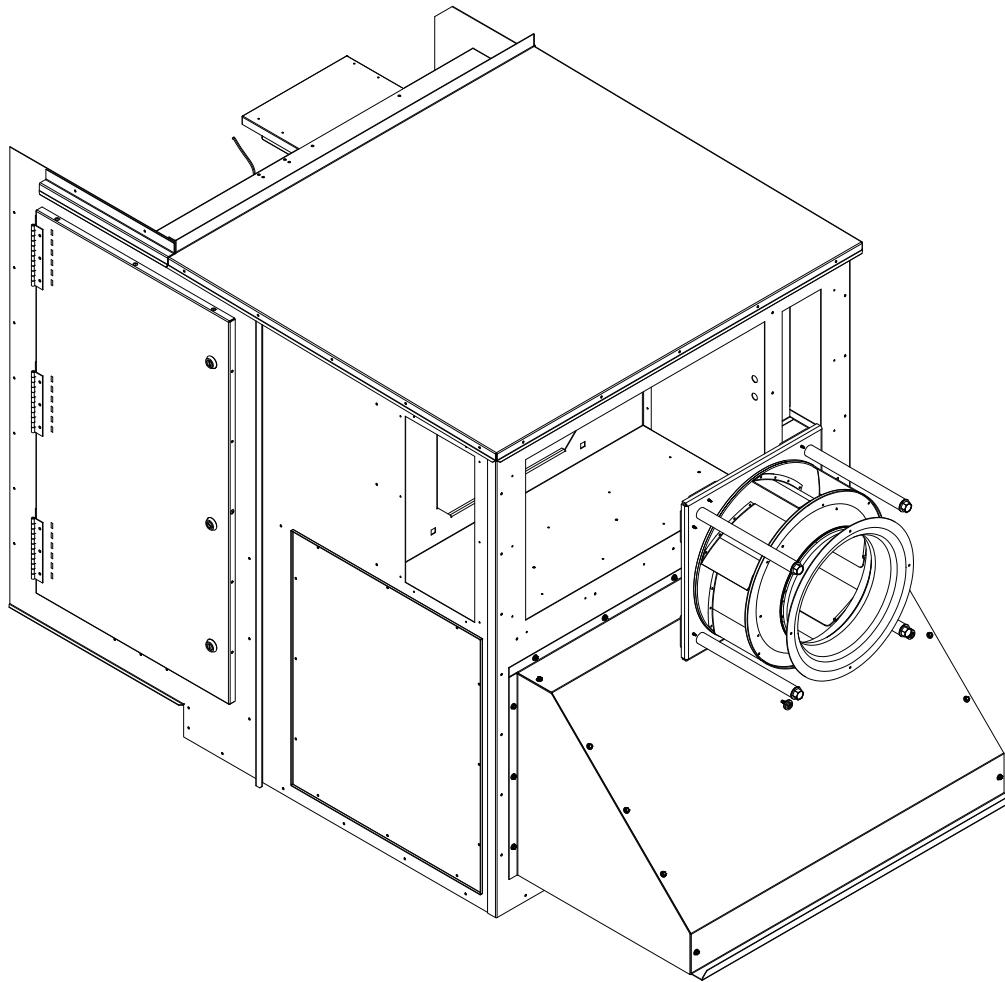

Fig. 57 — Outside Air Fan Removal
8. Pull the outside air fan out through the hood opening. See Fig. 57.
2. Remove the exhaust fan access panel by removing the self-sealing screws around the perimeter (see Fig. 57).